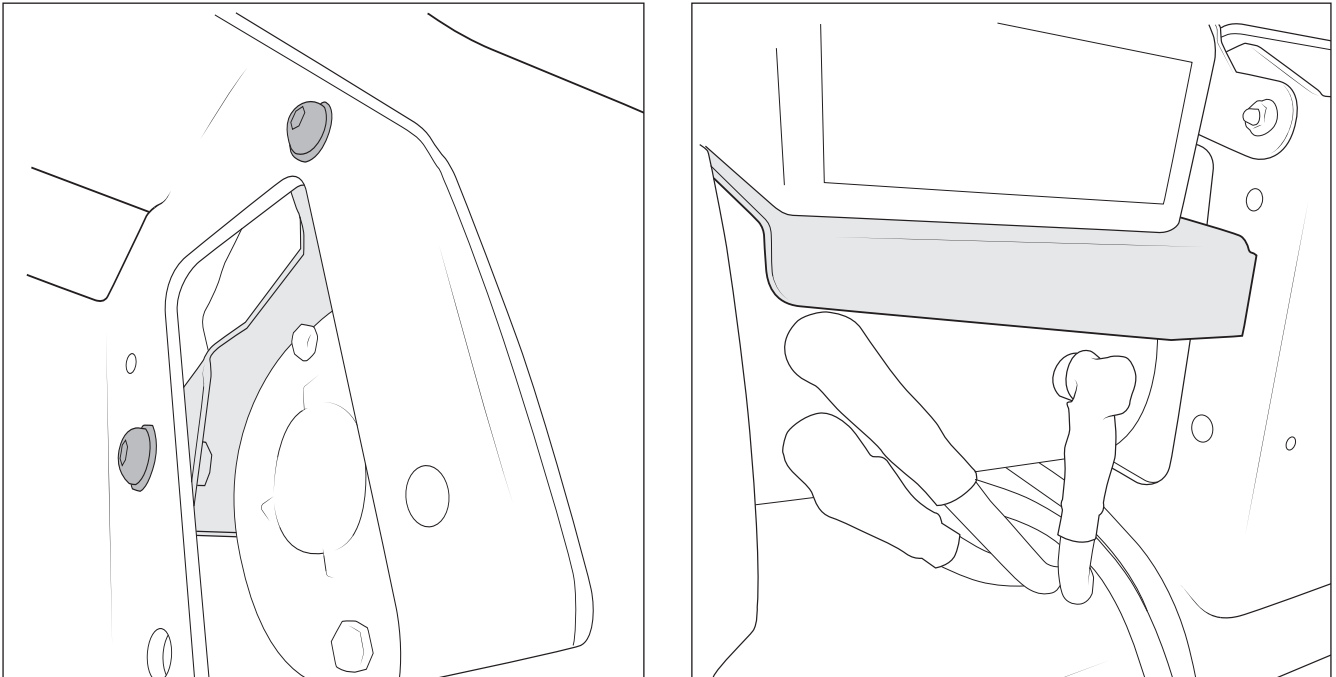

Figure 7
10. Screw in the power block component use a pry bar to ensure that the cords are not being restricted by the AEV bracket (fig. 7).